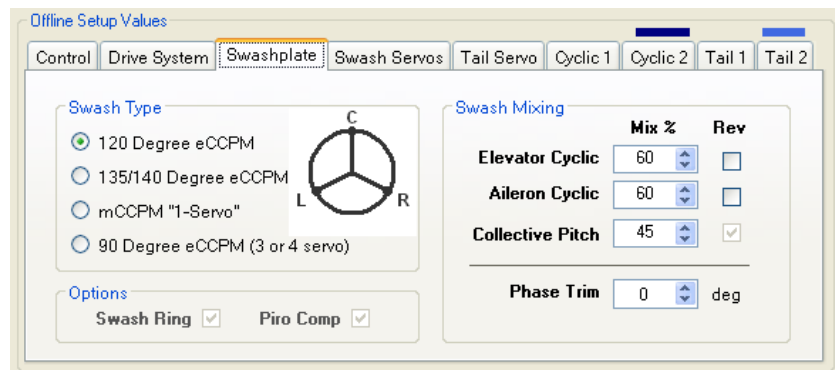

Figure 11.5 – Offline Setup Values *Swashplate* Tab
- Click the *Swashplate* tab in the *Offline Setup Values* area in the lower half of the setup software window (see Figure 11.5 below). Set the *Swash Type* just as you normally would in your transmitter.
- Check aileron and elevator swash motion for correct direction of travel. If it isn't right, you can reverse the elevator and aileron channels by clicking on the appropriate checkbox in the *Swash Mixing* area on the *Swashplate* tab. (See Figure 11.5 on the previous page.)
- Now check the blade pitch range in response to full maximum and full minimum collective, elevator and aileron. Plus or minus 12 degrees of collective pitch and plus or minus 10 degrees of cyclic pitch are good starting points for most sport fliers. These can be adjusted using the *swash mixing* values on the *Swashplate* tab. (See Figure 11.5 on the previous page.)